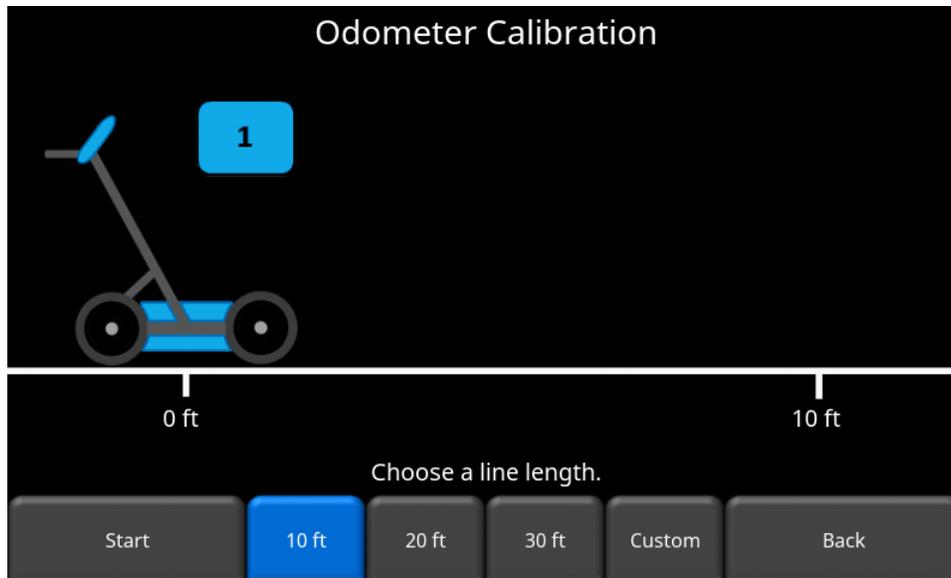

Figure 6-20: Odometer Calibration – select a distance and then press Start
- Odometer Calibration** - This option actually calibrates the odometer (Figure 6-20). Choose a set distance from the screen, or select Custom. Then press **Start** and then move the system that exact distance, using a measuring tape or other known distance indicator. Press **Finish** when you have travelled that distance